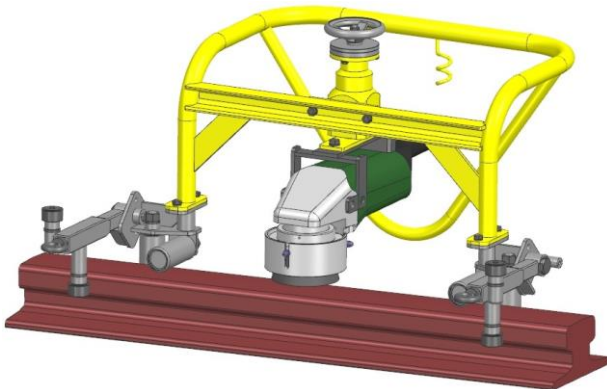

Fig. 5: A100 grinding surface of rail
- with double rollers and idler rollers for crane rails A100 to A150 (Figs. 5 and 6)